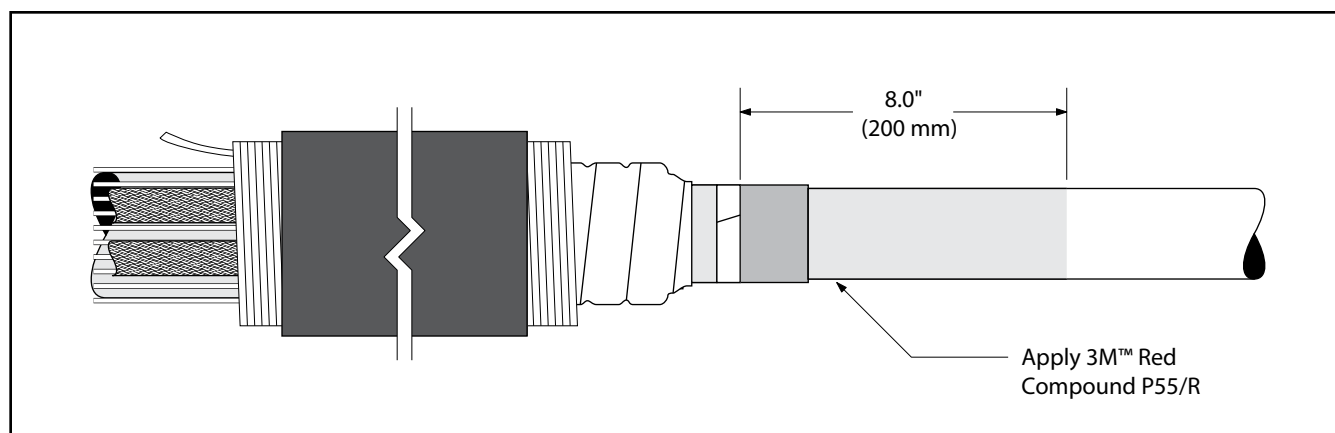

Figure 22
6.3 Apply 1 tube 3M™ Red Compound P55/R starting at marker tape and continuing onto the cable insulation for approximately 8" (200 mm). (*Figure 22*)